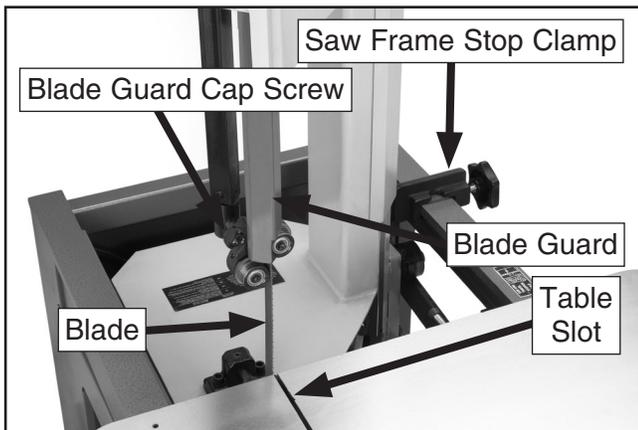

Figure 37. Blade guide setup.
2. Move the saw frame forward until it is up to, but not yet entering the slot in the table, as shown in **Figure 37**, then lock the frame in place using the saw frame stop clamp.